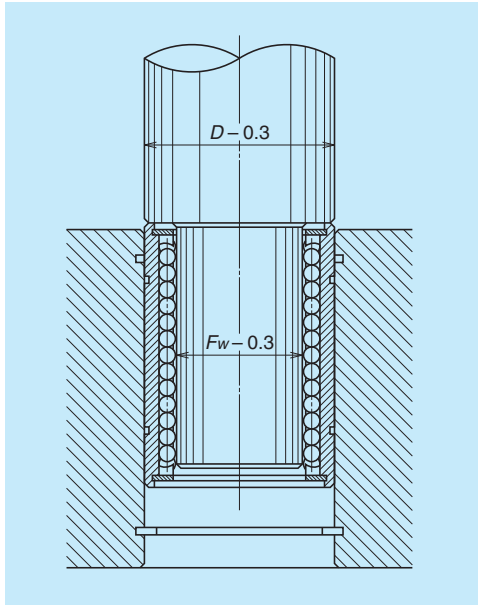

Fig. 9 Tool to install a linear rolling bushing
- To install linear rolling bushing, use a tool (Fig. 9) and squeeze it in, or use a holder and lightly pound it.